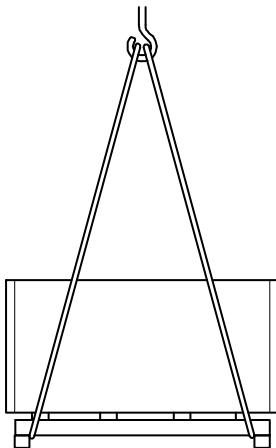

Fig. 8
1. Fasten ropes, belts or multiple-point suspension gear to the pallet according to Fig. 8.